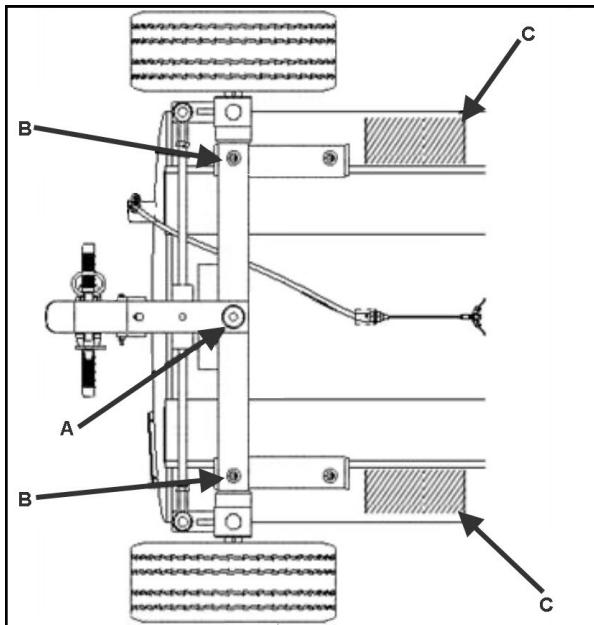

Figure 4-11 Lift Points
To remove the entire Rear Undercarriage assembly, the equipment must have the back end raised. See Section 4.12 and use Figure 4-11.
- a. Raise equipment with suitable maintenance jack (see Figure 4-11 arrow A for jack placement) and allow for 2-inches of space between the wheels and the ground.
- b. Place cribbing under tank skids to safely support the equipment. (see Figure 4-11, reference points labeled with a C).